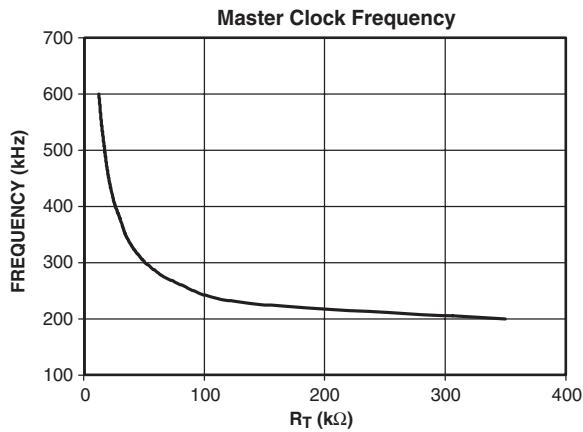

Figure 18. R_T vs. Frequency
The clock frequency on the oscillator is set using an external resistor, connected between R(T) pin and ground. The frequency follows the graph, as shown in Figure 18. The minimum clock frequency is 200kHz, which is when R(T) pin is left open. Select the value of R(T) as shown in the equation below. This equation is valid for all $F_{OSC} > 200\text{kHz}$.